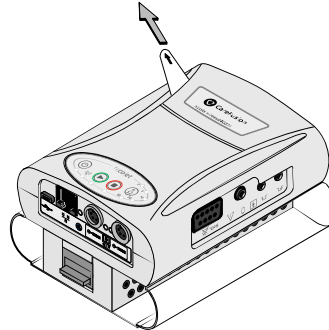

Figure 1
1. The first time the amplifier is used, you must pull the plastic strip out from the battery compartment (Figure 1) to activate the internal batteries for use with the amplifier.